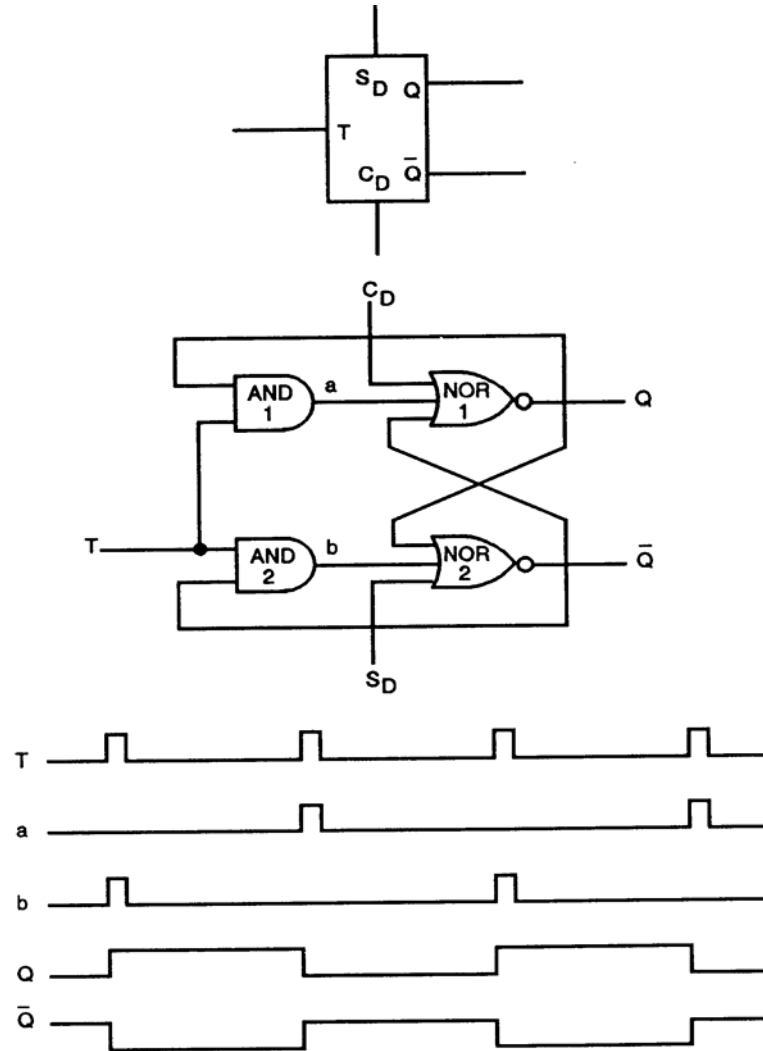

Figure Q-30. Toggle Flip-Flop
e. Toggle Flip-Flop (T FF). In the T FF, the output changes state every time an activating input is applied. The T FF is often used as a connecting circuit. See Figure Q-30.